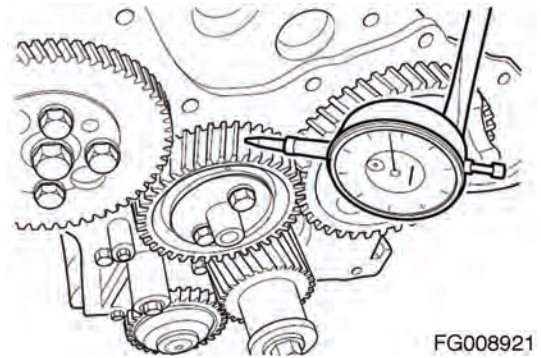

Figure 168
1. Install a dial indicator as shown in Figure 168.